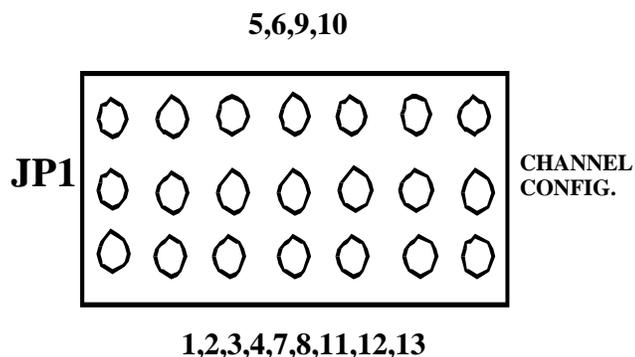

Figure 1. ASC Card Jumper Block
6. On both the operational and spare ASC, set the backup channel configuration using the seven jumpers on JP1. Using all seven jumpers, move the jumpers to the side of the block that lists the number of output channels for your site configuration, the center row of pins being common. Example: Using figure 1 as a reference if your site configuration had 5, 6, 9, or 10 channels, each jumper would connect from the center row of pins to the top row of pins. If your site configuration had 1, 2, 3, 4, 7, 8, 11, 12, or 13 channels, each jumper would connect from the center row of pins to the bottom row of pins.